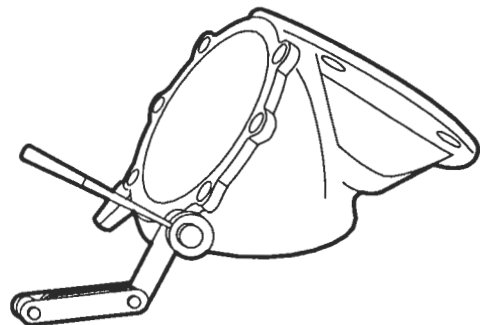

Figure 3. Center Punch Shaft thru Spacer Hole
3. Insert the shaft into the shutdown housing bore and install the spacer on the end of the shaft. Place a .015 inch feeler gage between the housing and spacer and mark the shaft with a center punch inserted into the existing hole in the spacer (Figure 3.)